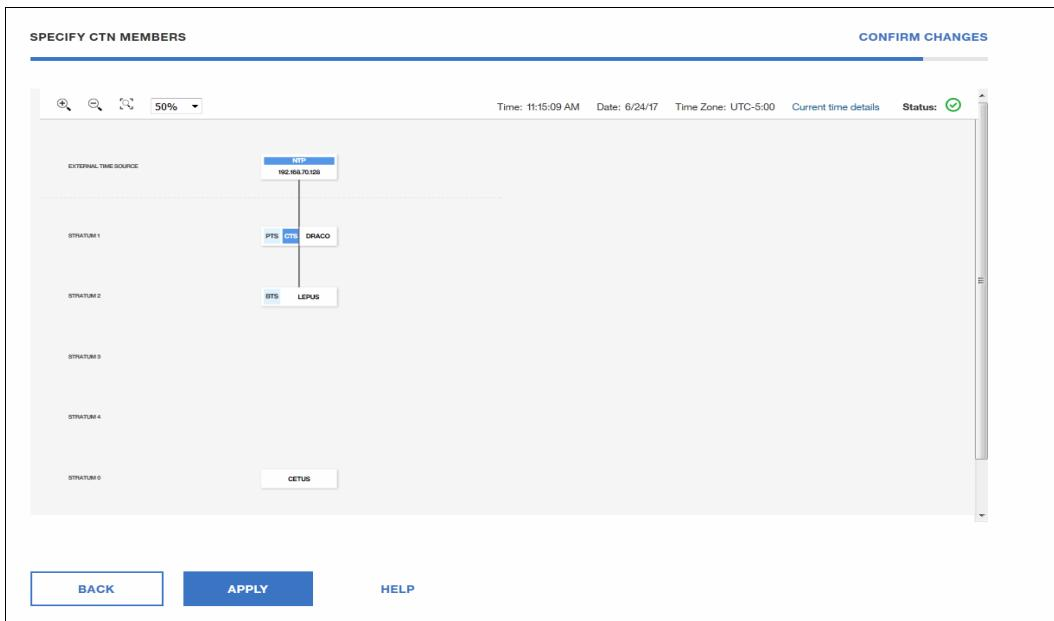

Figure 8-57 CONFIRM CHANGES
3. The **CONFIRM CHANGES** window opens. In this case, CETUS is Stratum 0. Click **APPLY** to continue (Figure 8-57).